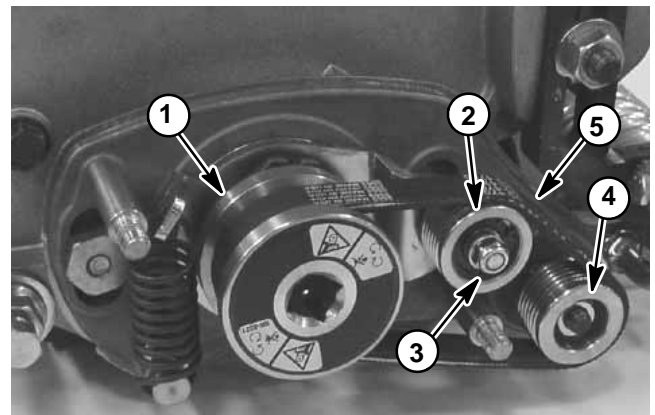

Figure 5
3. Pivot idler pulley by placing a 10mm wrench on pulley nut and rotating clockwise to relax belt tension. Slip groomer drive belt off pulleys (Fig. 5). Release idler.
4. Install new groomer drive belt to drive pulley, idler pulley and driven pulley observing correct belt routing (Fig. 5). Make sure that groomer belt is centered in pulleys.
6. Position belt cover to cutting unit and secure with two (2) lock nuts.